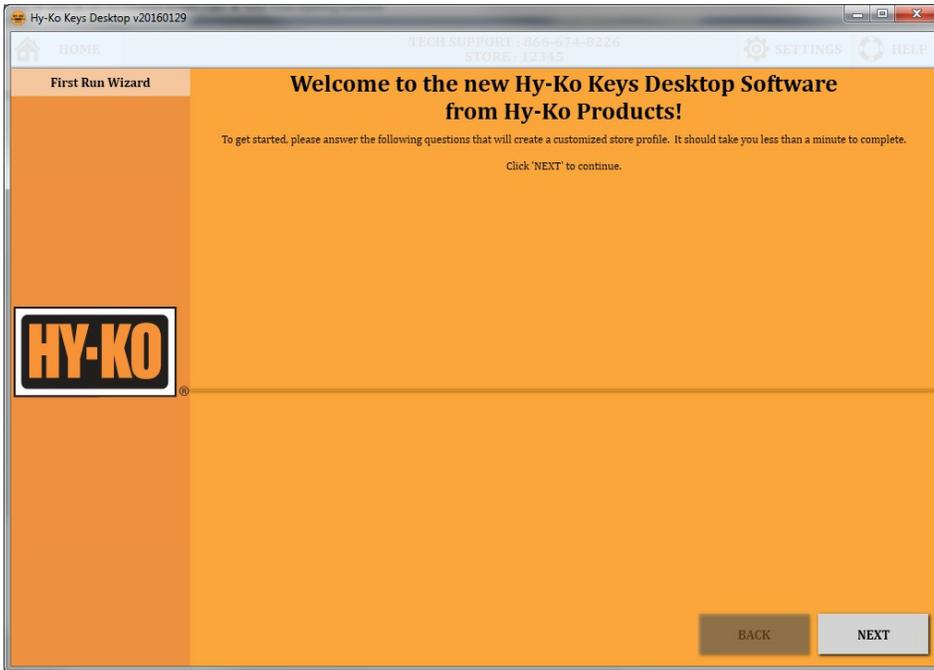

fig. 3
- When the updates are complete a **'First Run Wizard'** will open. Click **'NEXT'** (see fig. 3).